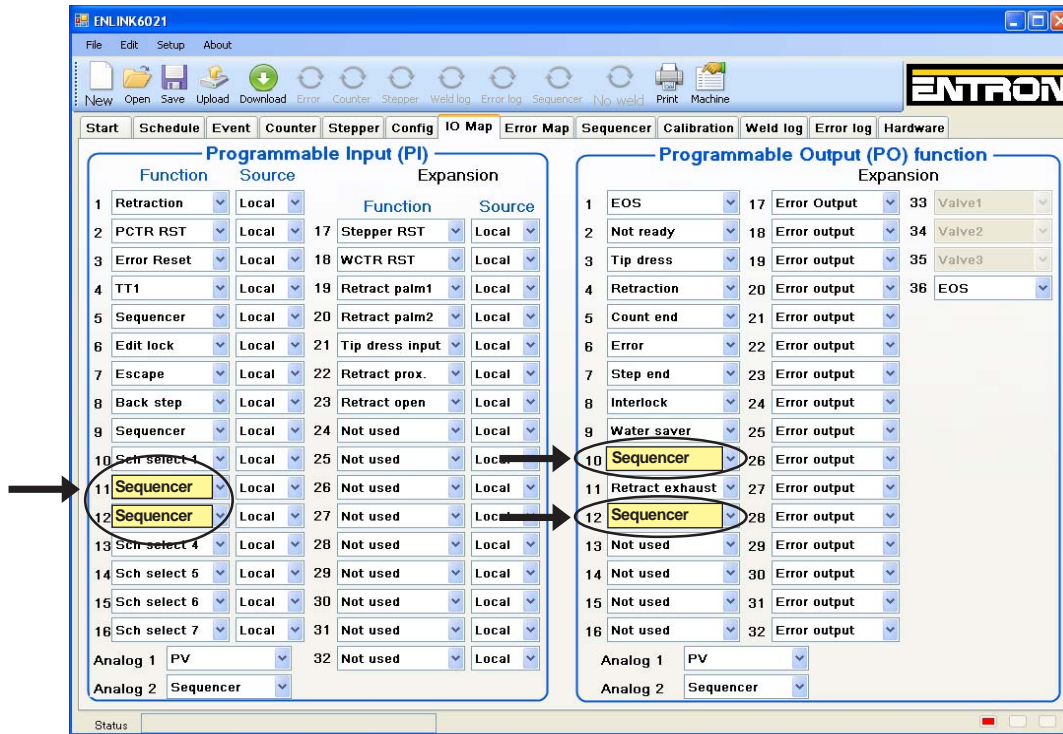

Figure 9-54. Input/Output Map page
- C. Map INPUT PI11, INPUT PI12, OUTPUT PO10 and OUTPUT PO11 to Sequencer on Input/Output Map page (Figure 9-54).